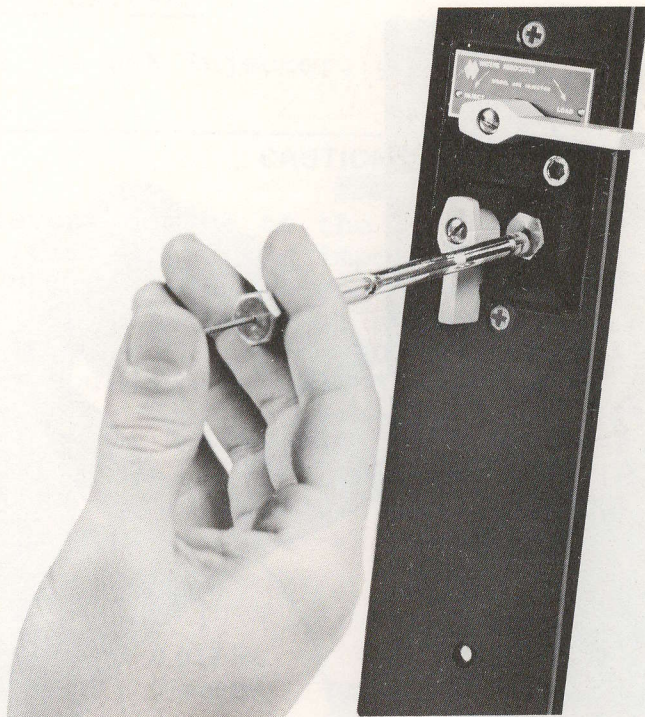

Figure 3-5. Loading Injector with Sample
- d. Insert syringe into sample loading port until syringe bottoms (see Figure 3-5).